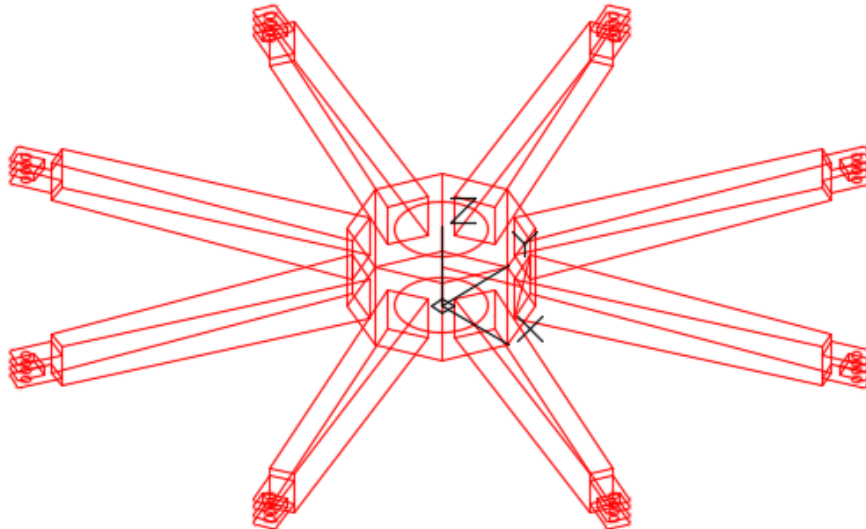

Figure Step 2
Step 2 Array the arm as shown in the figure. (Figure Step 2)
Step 2 Mirror the wireframe drawn in Step 1. Erase the extra lines and clean up the model to create one model. (Figure Step 2)